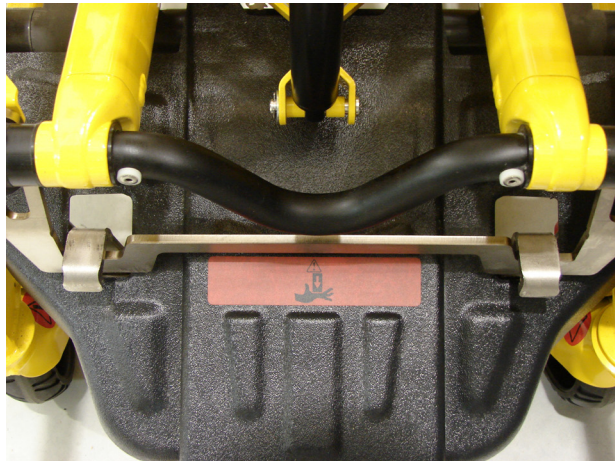

Figure 11
3. Push the cot forward onto the tail lift, head end first as shown in Figure 10. Ensure that the wheels are in the proper location on the tail lift to allow the safety stop to properly rotate in place and prevent the cot from rolling backwards as shown in Figure 11.